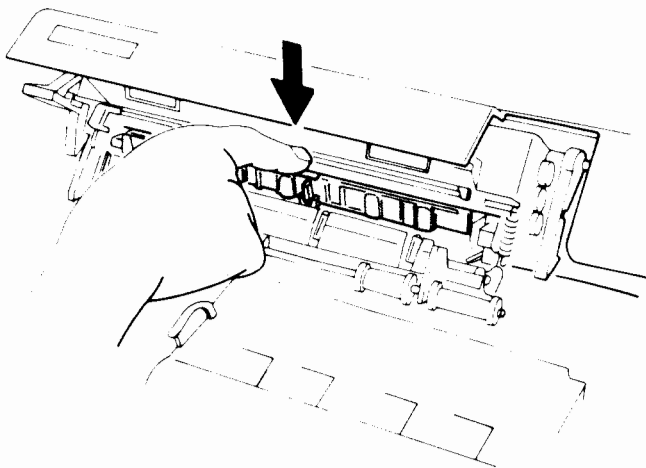

Figure 2-10 Installing the cleaning pad
- c. Place the cleaning pad (with the felt side towards the heat roller) in the housing, as shown in Figure 2-10. The tab near the center should be aligned in the V-shaped groove. Make sure that the pad is firmly seated in the housing.